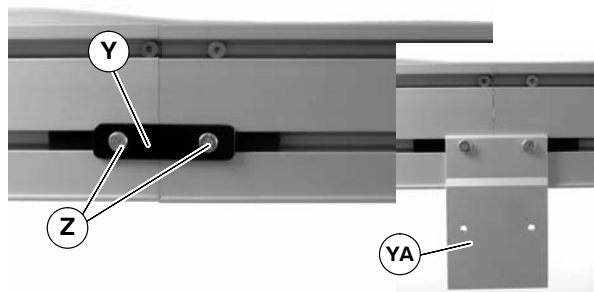

Figure 9
5. Join additional conveyor sections if necessary and install connector brackets (Y of Figure 9) or connector/mount brackets (YA) and screws (Z) on both sides as indicated. Tighten screws to 60 in-lb (7 Nm).